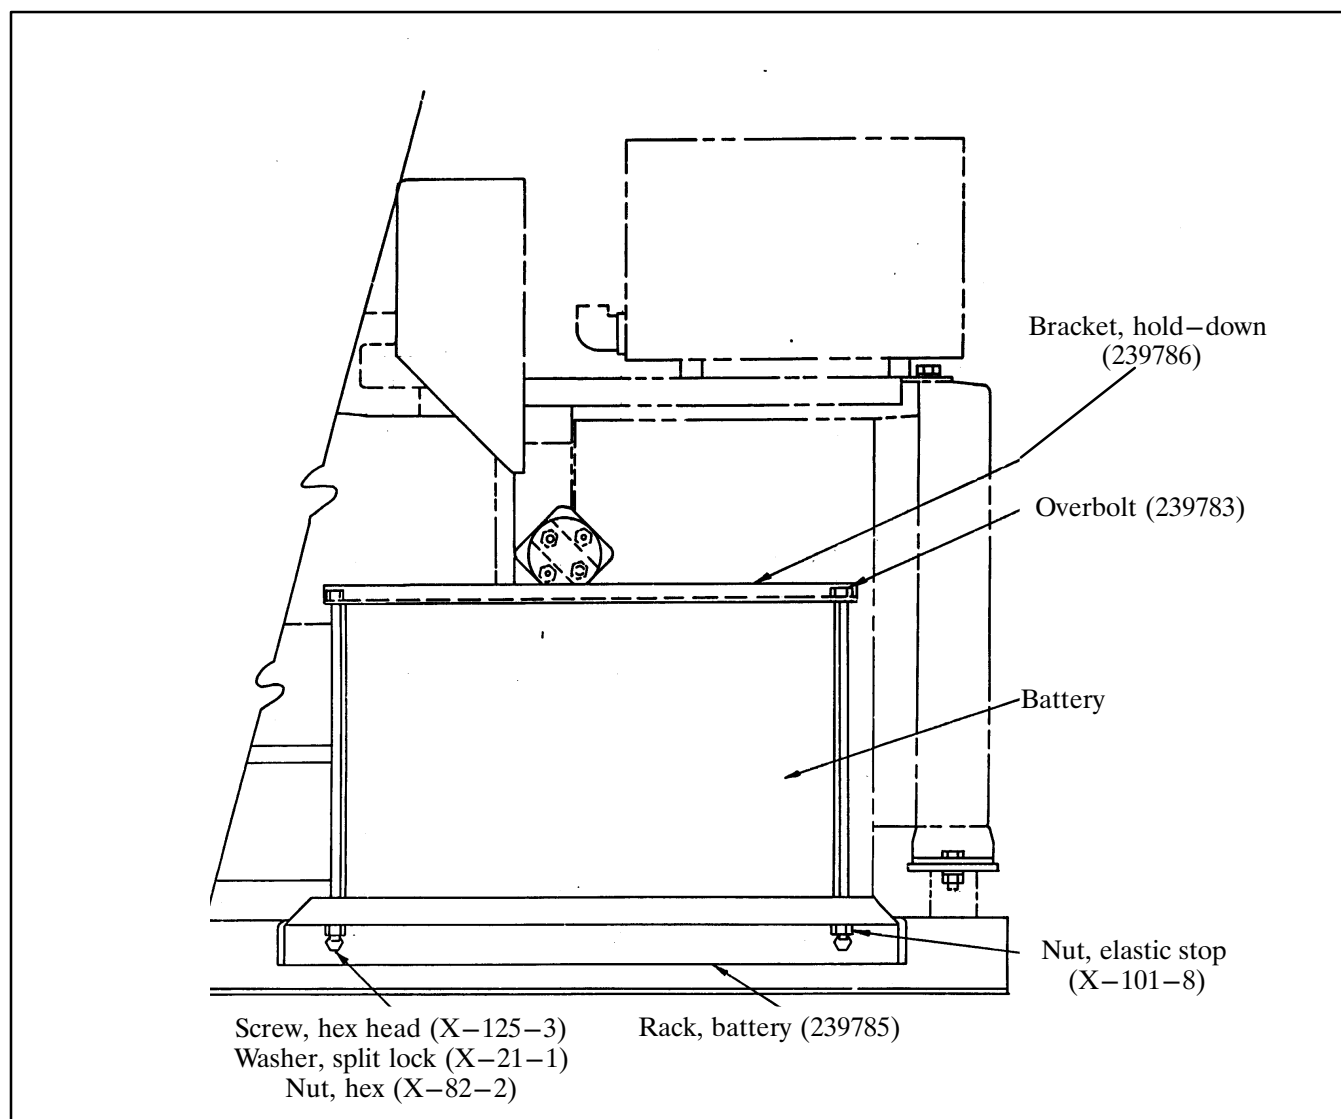

Figure 1. Battery Rack Kit Installation
3. Install new battery rack kit as shown in Figure 1. Do not install hold-down bracket (239786) and overbolts (239783) until step 5.